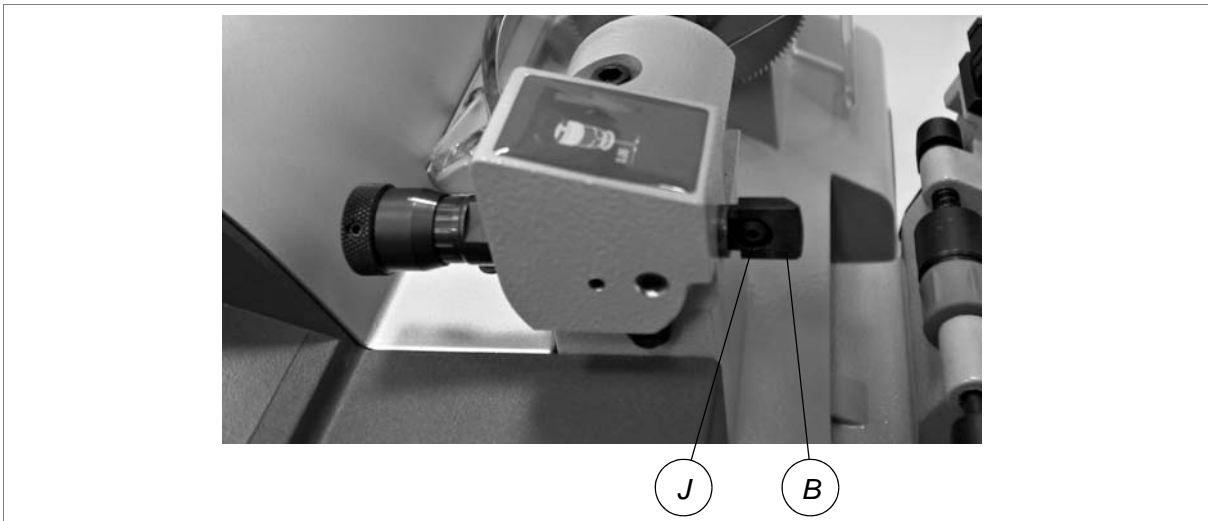

Fig. 27
- 2) Loosen and remove the screw (J) and remove the tracer point (B) (fig.27).
- 3) Place the new tracer point in position and fix with the screw (J).